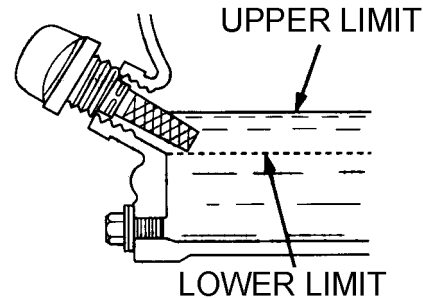

Figure 15. Engine Oil Dipstick (Oil Level)
- If the oil level is low (Figure 15), fill to the edge of the oil filler hole with the recommended oil type as listed in Table 4. Reference Table 3 for maximum engine oil capacity.